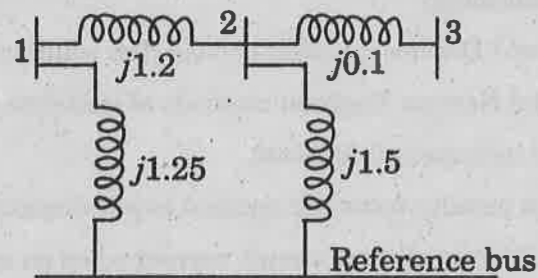

Fig. 2.
12. Find Z bus for the system whose reactance diagram is given in Fig. 2. All reactances are in pu.